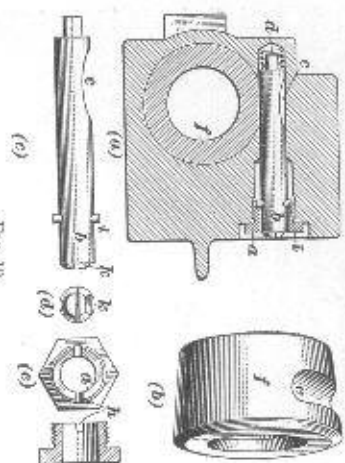

FIG. 10
10. Gasket-Retaining Feature.—The gasket-retaining feature of the Positive-Lock steam-heat coupler, Fig. 10, consists of a bushing *a*, a brass bolt *b*, and a brass spring *d*. The
To remove the gasket from the Positive Lock Steam Coupler, Fig. 8, proceed as follows: By means of a screwdriver, a dime, a penny, or a heavy knife blade, push the locking bolt *b* well in until the cross-pin on the bolt is out of the groove *h*, Fig. 10, and turn the bolt half way around until the cross-pin again snaps into the groove *h*. The gasket can then be pulled out of the coupler head. If the coupler head is very hot, the gasket may be swelled until it is tight in the coupler head. However, as the coupler cools the gasket will shrink so that when the coupler head is cool enough the gasket will come out readily. In replacing the gasket, place it in the coupler head with the center of the groove *e*, Fig. 10, even with the center of the top of the coupler head. Then, press the bolt *b* in and turn it a half turn so as to lock the gasket in place.